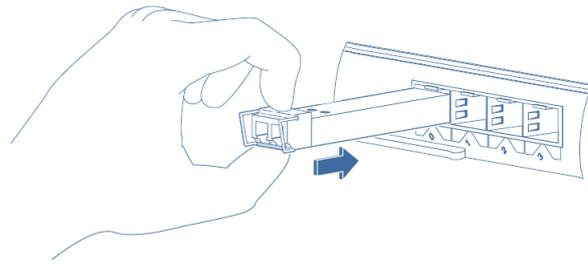

Figure 4 : Installing an SFP+ Module into a port
4. Line up the module with the port and slide it into the port as shown in Figure 4.